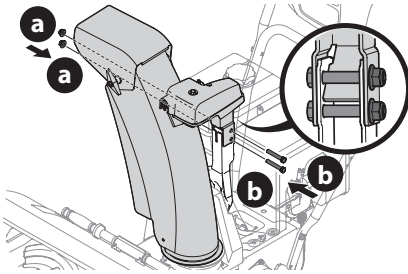

Figure 22
- Secure chute control head to chute support bracket with lock nuts (a) and hex screws (b) removed in Step 1 (Figure 22).